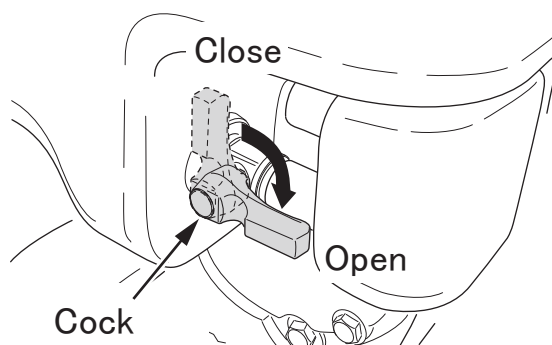

Fig.19
5. If your unit is equipped with the water tank and your application requires sprinkling work, open the cock of water tank.(fig. 19)